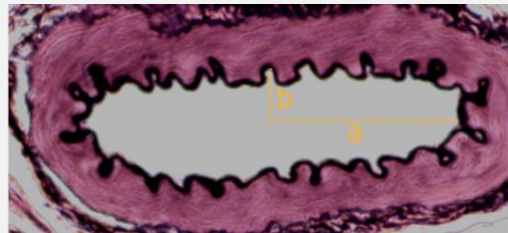

Figure 1-7 Major ( $a$ ) and minor radius ( $b$ ) illustrated on sample vessel lumen
**STRAIGHT LINE TOOL ANALYSIS:** Repeat the measure tools used in steps 4 and 5 to obtain the radius dimensions for the lumen in your images. Review Equation 1-1 and Figure 1-7 and show your calculations for each image in